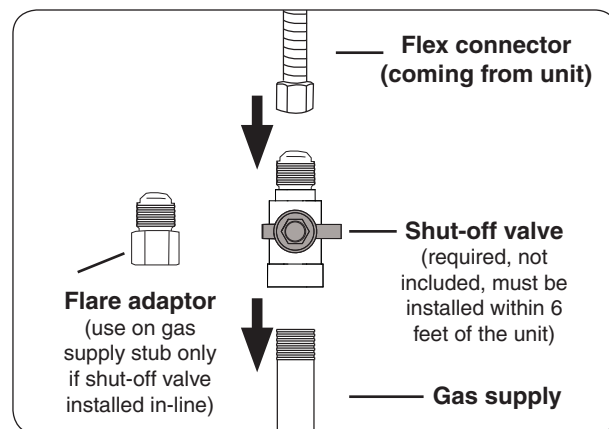

Fig. 16-2 Connecting to a gas line
- Connect the flex connector to the shut-off valve (see Fig. 16-2). Tighten securely.
- Install the supplied flare adaptor to the gas supply using a pipe joint compound resistant to all gasses (see Fig. 16-2). Tighten securely.
- Connect the flex connector to the flare adaptor (see Fig. 16-2). Tighten securely.